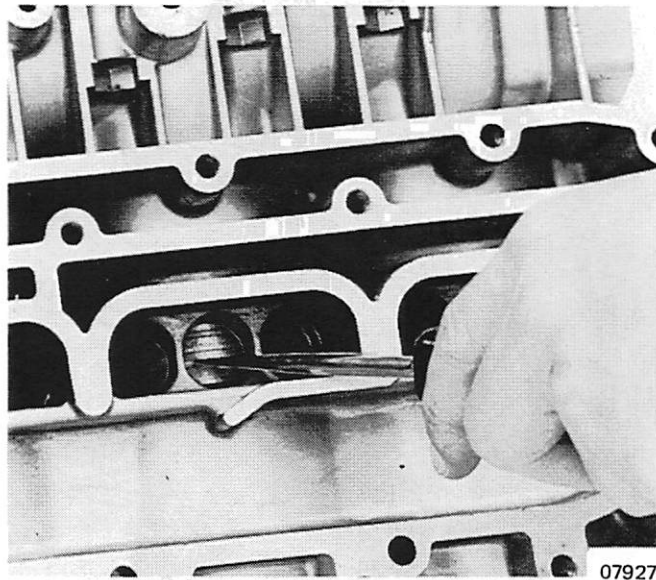

Figure 10. Checking Piston Rings
22. Check each piston ring for spring tension thru exhaust or intake ports by pressing with screwdriver. (Figure 10) If no springing action occurs, or ring does not return to position, it is likely that ring has been broken in reassembly. Be careful not to burr piston rings.